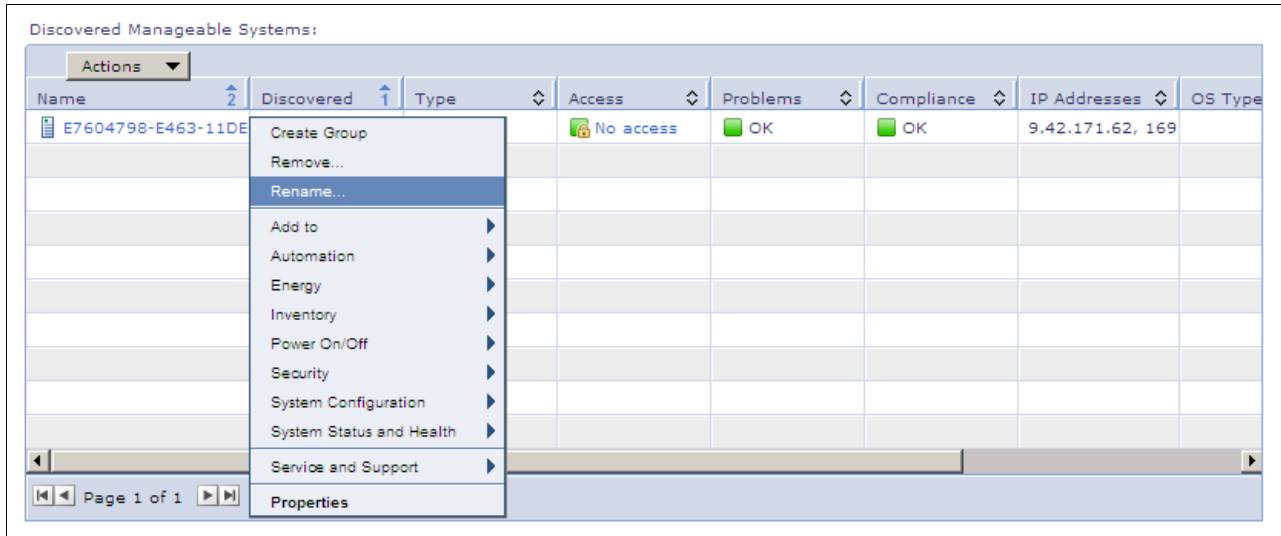

Figure 9-20 Renaming an IMM
- To rename the IMM, right-click the IMM server object in the Discovered Manageable Systems area and click **Rename**, as shown in Figure 9-20.